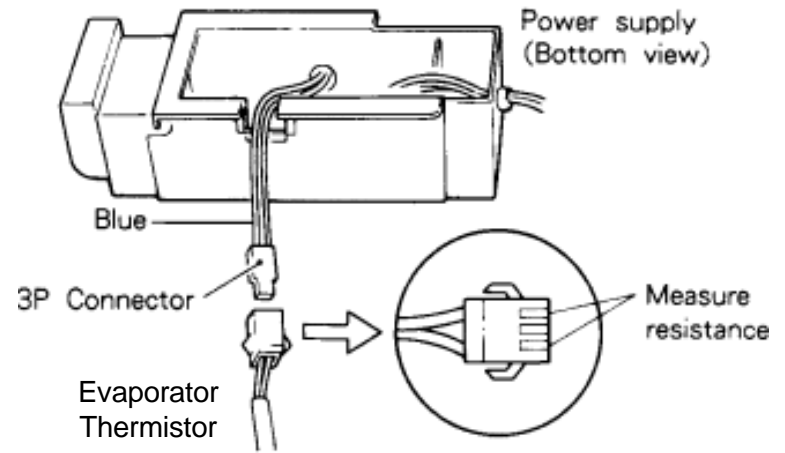

Figure 6 - Evaporator Thermistor
1. Turn the refrigerator to OFF and measure resistance of the Evaporator Thermistor as shown in Figures 6.
Refer to the chart below and Figure 6.